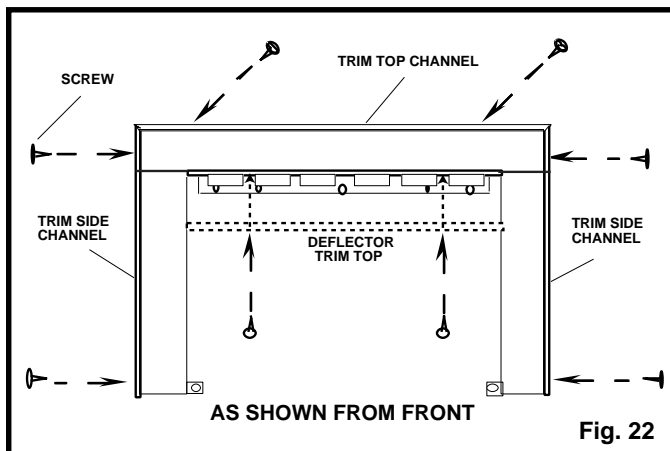

Fig. 22
RHESS, RHESL, and RHEXSL (Fig. 22)
3. Install the trim top deflector and use two screws to fasten it. (Fig. 22 & 23)